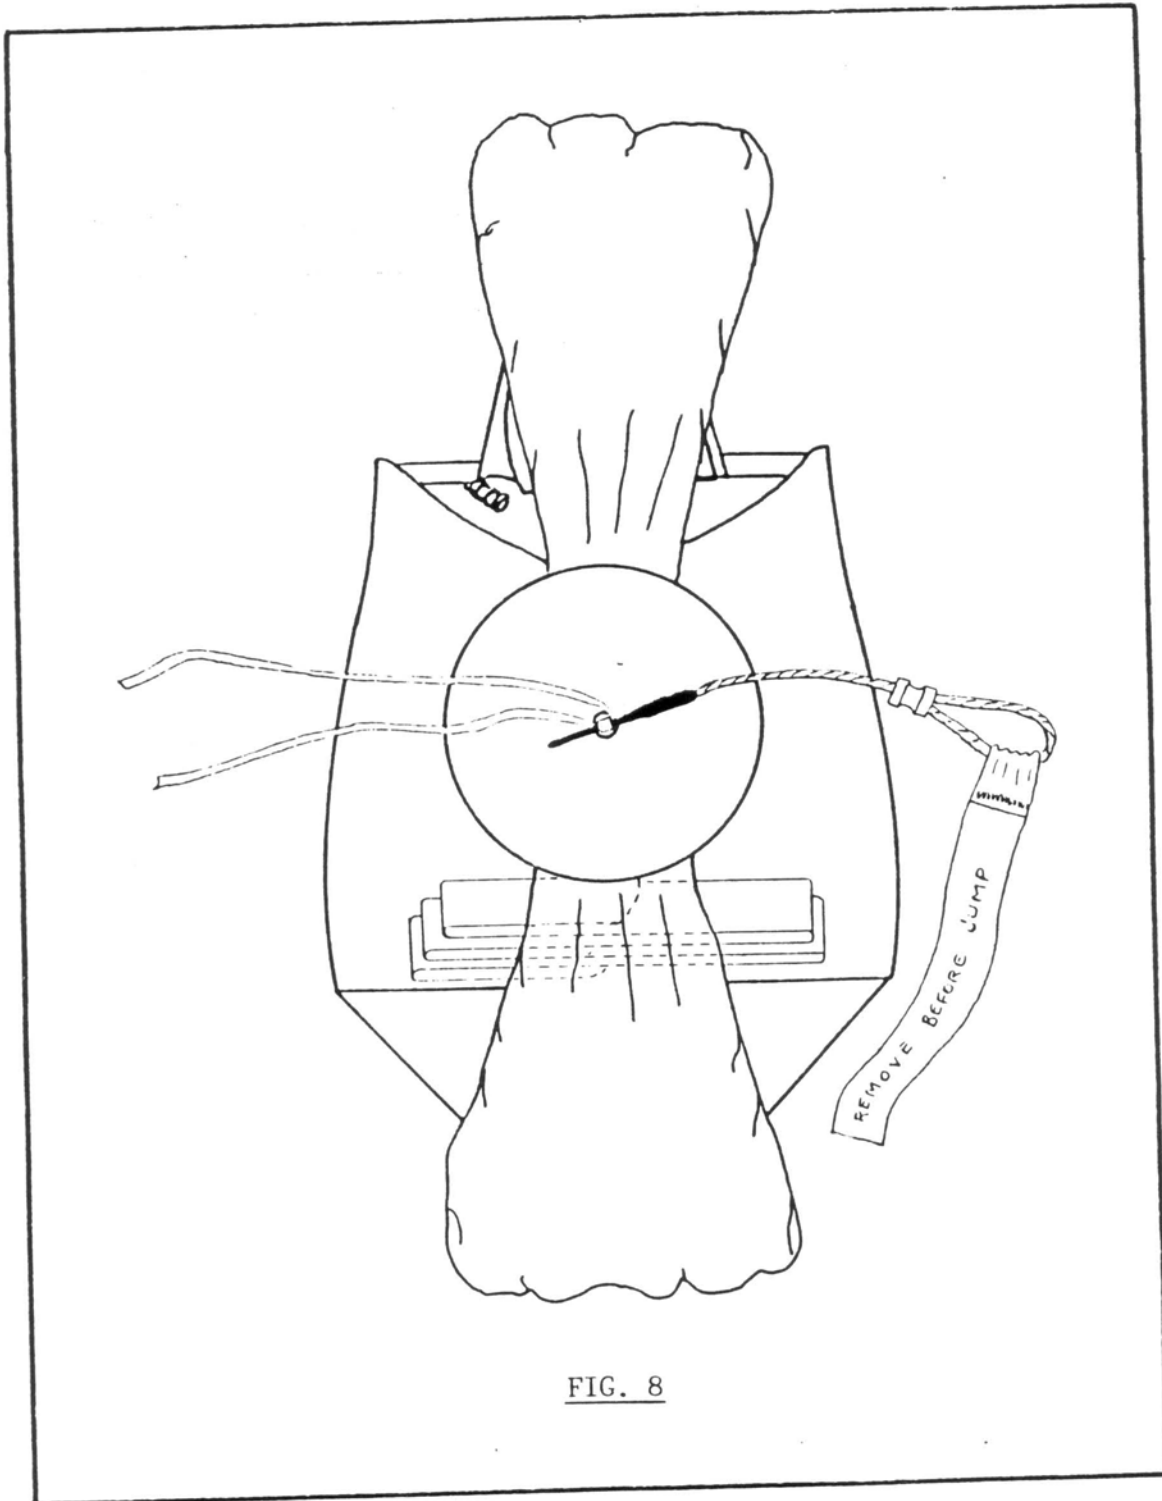

FIG. 8
- 10) On each side of the top plate make a roll or fold in the pilot chute fabric parallel to the side of the reserve container, and push this roll under the top plate. Fold the bridle in accordion folds across the bottom of the container on top of the side flaps. The width of the folds will vary with the width of the container; a simple rule-of-thumb is: "make the folds as wide as possible, but not so wide as to be seen after the bottom flap has been closed". (FIG. 8)